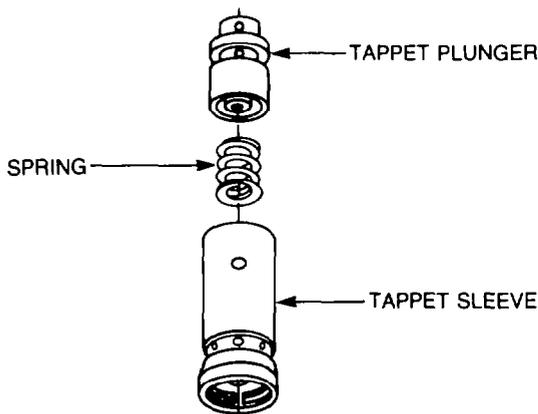

Figure 103 — Tappet Plunger and Spring — Installation
- i. Install the compression spring and tappet plunger into the tappet sleeve (see Fig. 103).